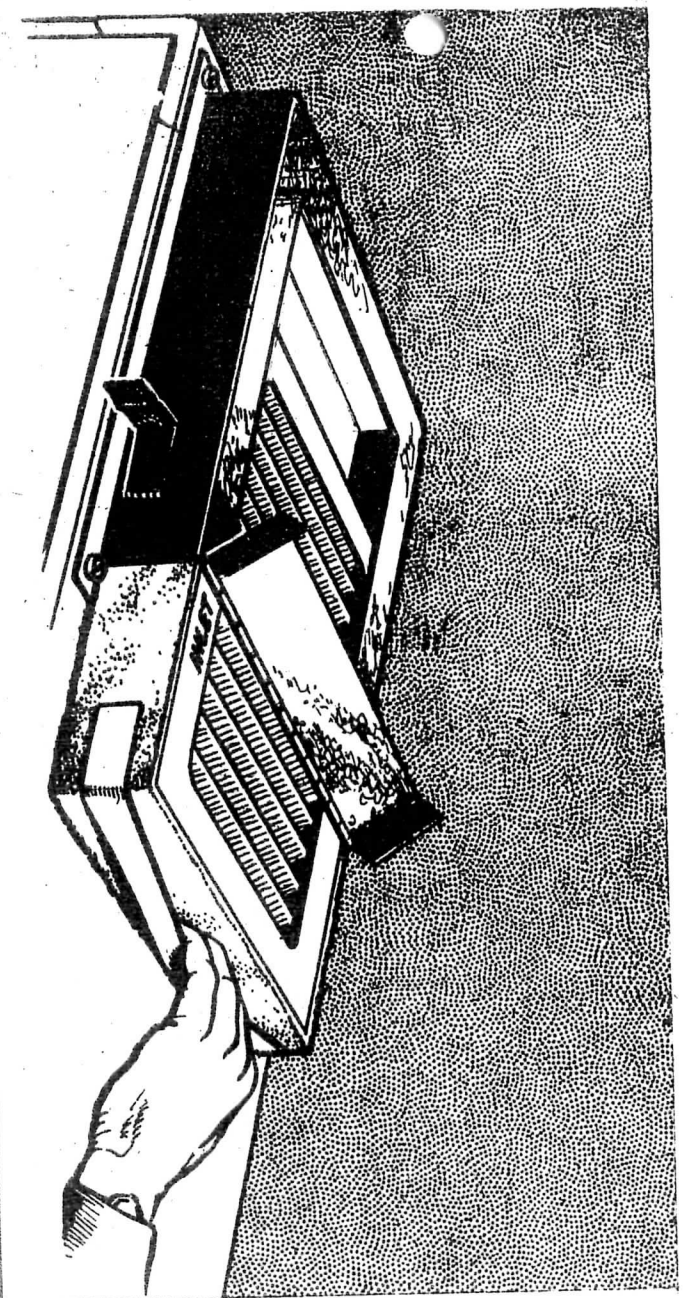

FIG. 4 REMOVING AIR FILTER
- (10) Remove air filter (see Fig. 4). Clean filter daily by knocking it out on its front edge.
As already explained, the amplifier must be tested every time before it is used. Table I (page 12) shows how to test it. The tests should be done DAILY, even though the amplifier is not going to be used. They MUST be done in the order given. For instance, test 5 will not work unless you have just done 4. The tests must be done AFTER the daily tests on the Wireless Set No. 19 have been carried out and with the set switched on. The air filter must be cleaned daily (see Fig. 4).